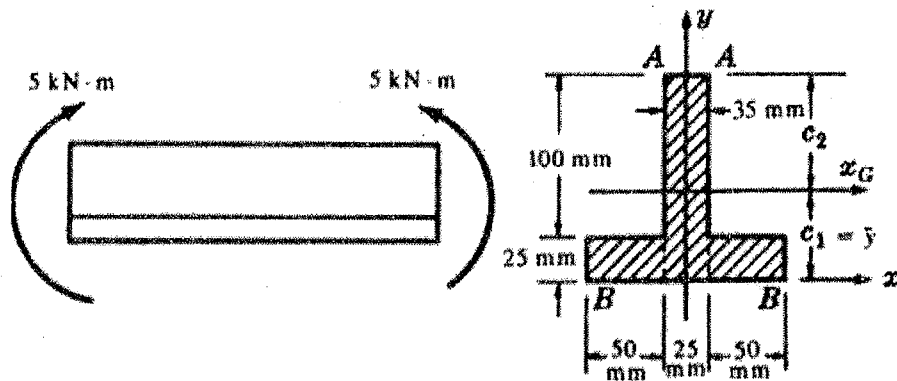

Fig.Q3
A steel beam is loaded by a couple at each of its ends, the magnitude of each couple being 5 kNm . The beam has an inverted T – type cross section as shown in Fig.Q3. Determine the following.
- Second moment of area about the x - axis as shown in Fig.Q3. (04 marks)